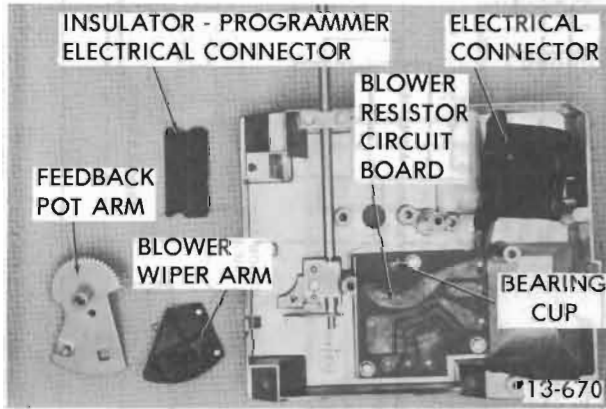

Figure 13-130 Blower Wiper Arm and Feedback Pot Arm - Removed
4. Separate blower resistor wiper arm from feedback pot arm. Be sure to locate two (2) single ball bearings and insure their location in bearing cups on wiper arm.
5. To replace, reverse removal procedure. Make sure ball bearings are properly located in bearing cups. See Figure 13-130.